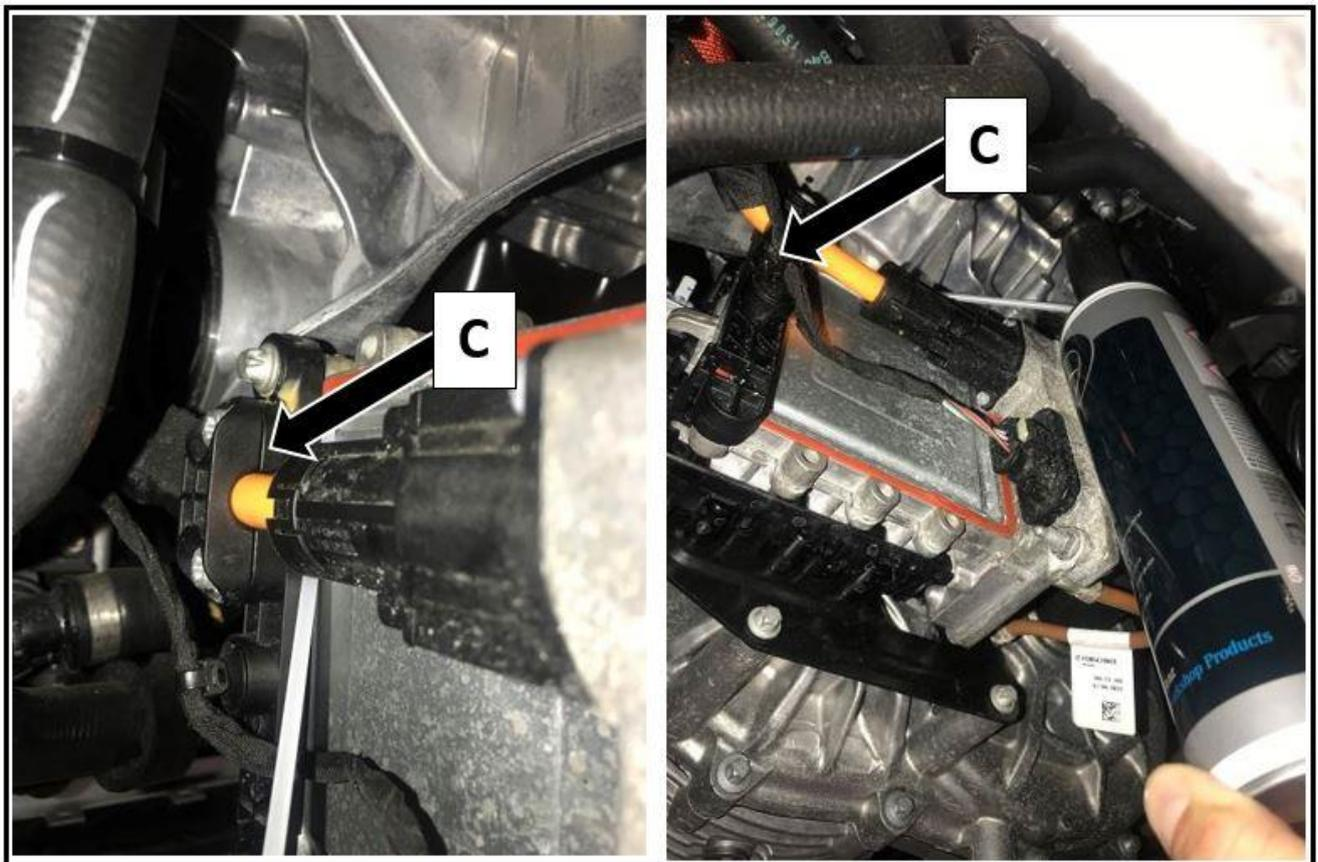

Figure 3
3. Apply a **generous** amount of spray wax to the retaining clamp (C, Figure 3) of the electric lines on the high-voltage PTC heater.